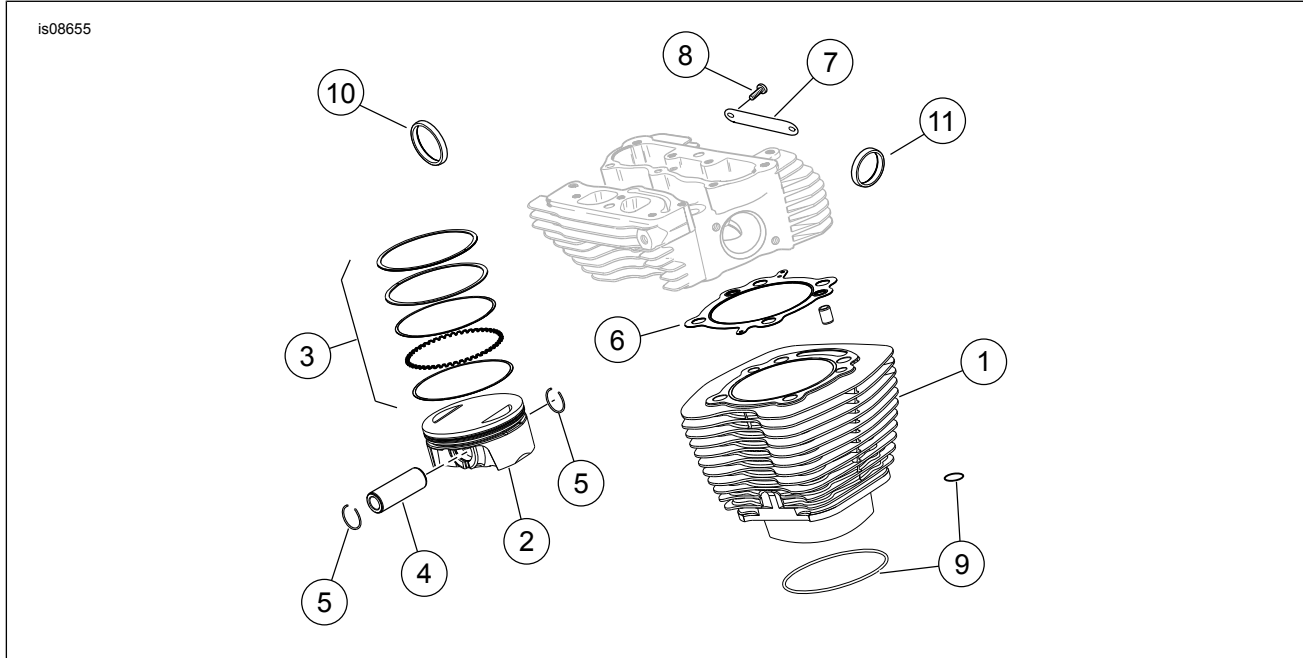
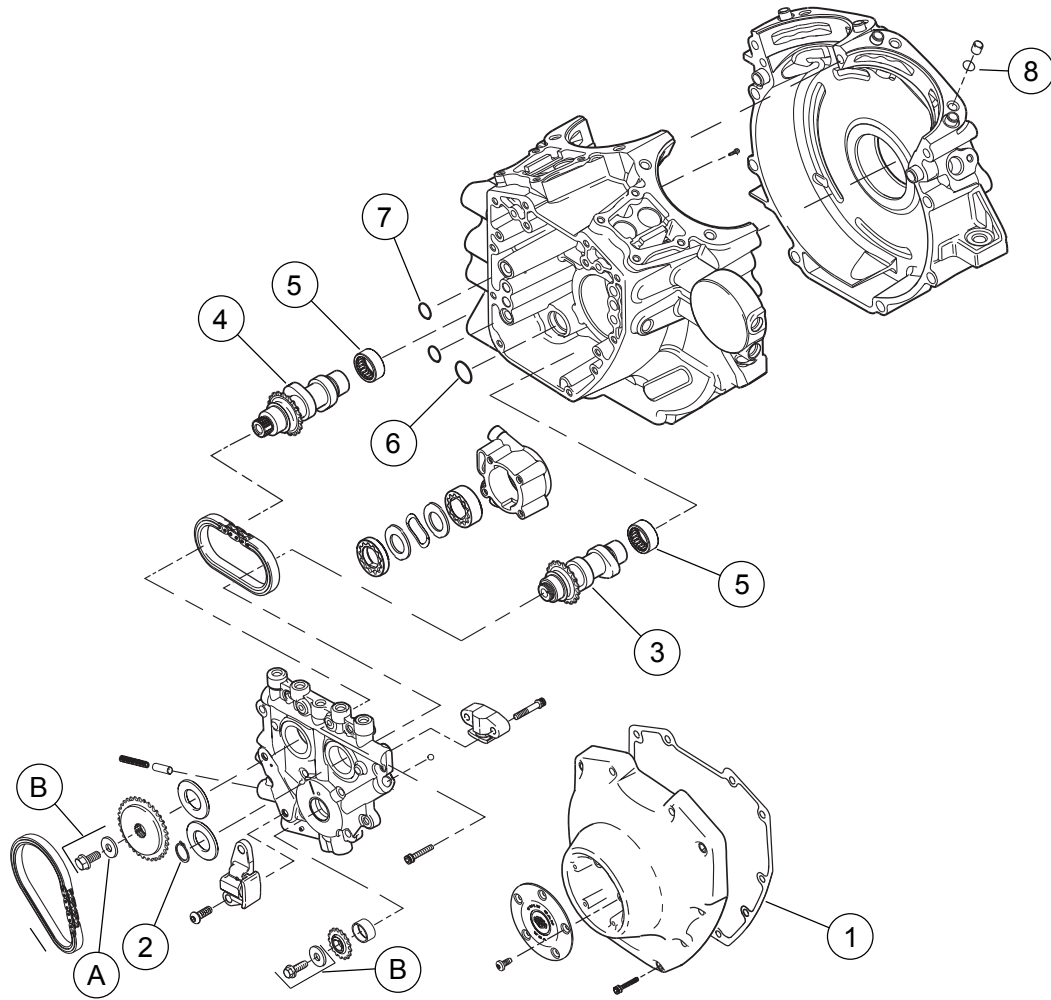

Figure 1. Service Parts: Screamin' Eagle Twin Cam 117 (1916 cc) Bolt-on Race Kit
Figure 3. Service Parts: Screamin' Eagle Twin Cam 117 (1916 cc) Bolt-on Race Kit
See Figure 1 to Figure 3, and Table 1 to Table 3.
1. See Figure 3. Install new inner cam bearings included with Kit.
2. See Figure 1 through Figure 3. See the service manual. Assemble cams to camplate, performance cylinder heads and engine top end using parts from kit.